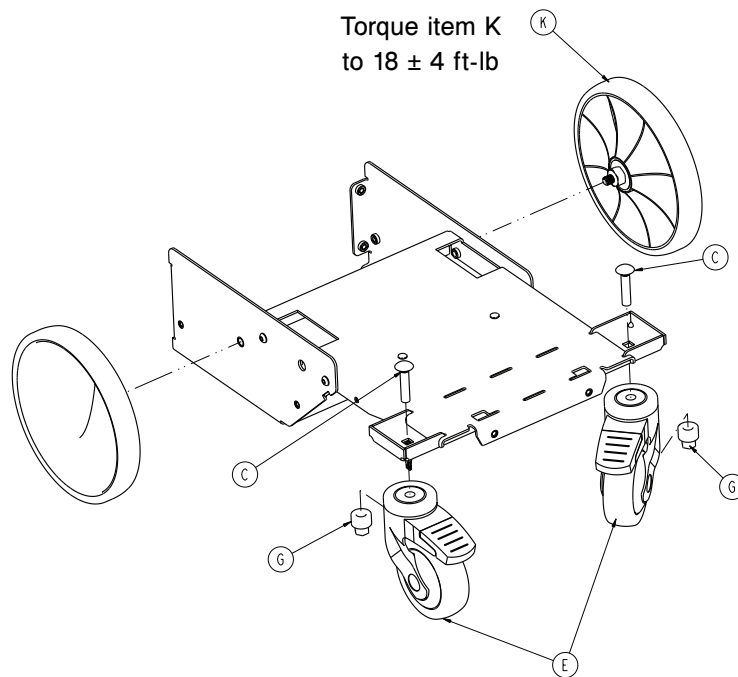

Figure 12: Front wheels
5. Slightly tip the product and place a 2" x 4" board under the front corner of the frame on the side you are replacing the front wheel (Figure 12 on page 23).